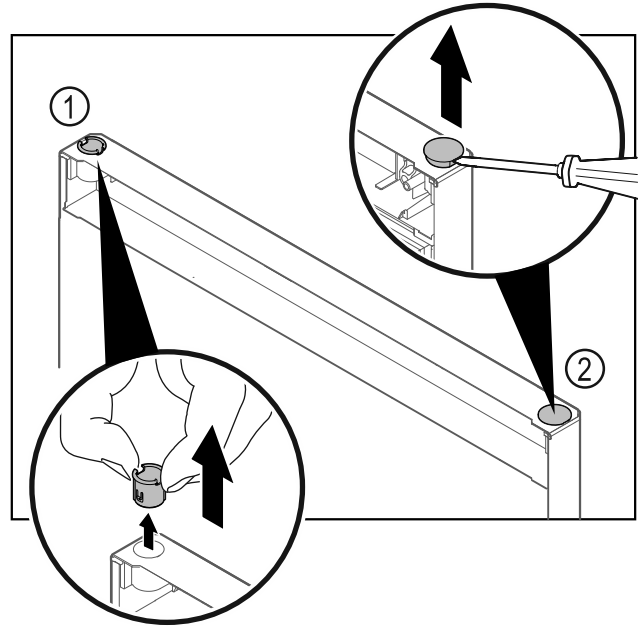

Fig. 32 Freezer compartment door
- ▶ Pull out the hinge bushing Fig. 32 (1) with your fingers.
- ▶ Carefully lift the cover plug Fig. 32 (2) with a slotted screwdriver and pull it out.